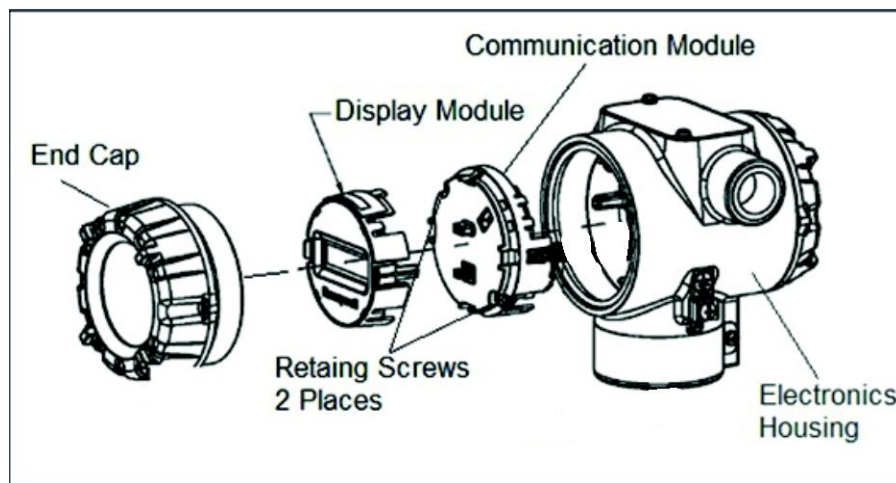

Figure 25 – PWA Replacement
Refer to Figure 25 for parts locations.
15. Install external upgrade label (i.e. DEVICE MODIFIED.....) provided on outside of housing as shown in Figure 25.